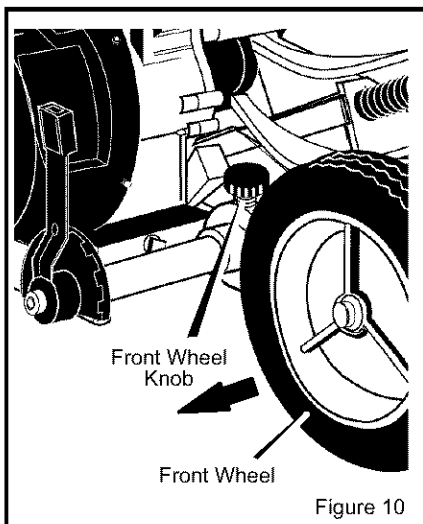

Figure 10
2. Loosen the **front wheel knob** shown in Figure 10. Slide the **front wheel** all the way to the right side.